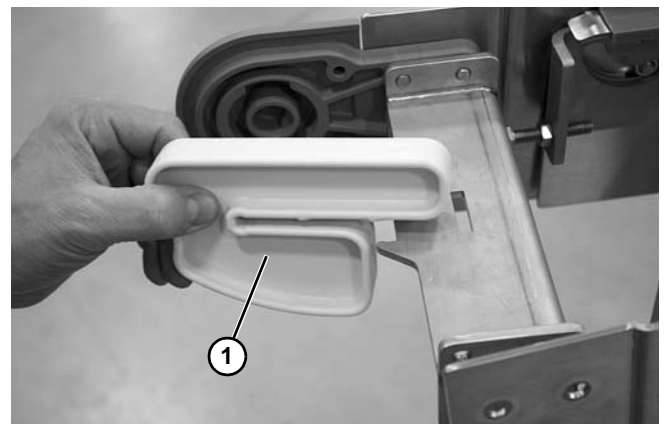

Figure 66
7. Remove and replace belt shoe if worn (Figure 66, item 1).